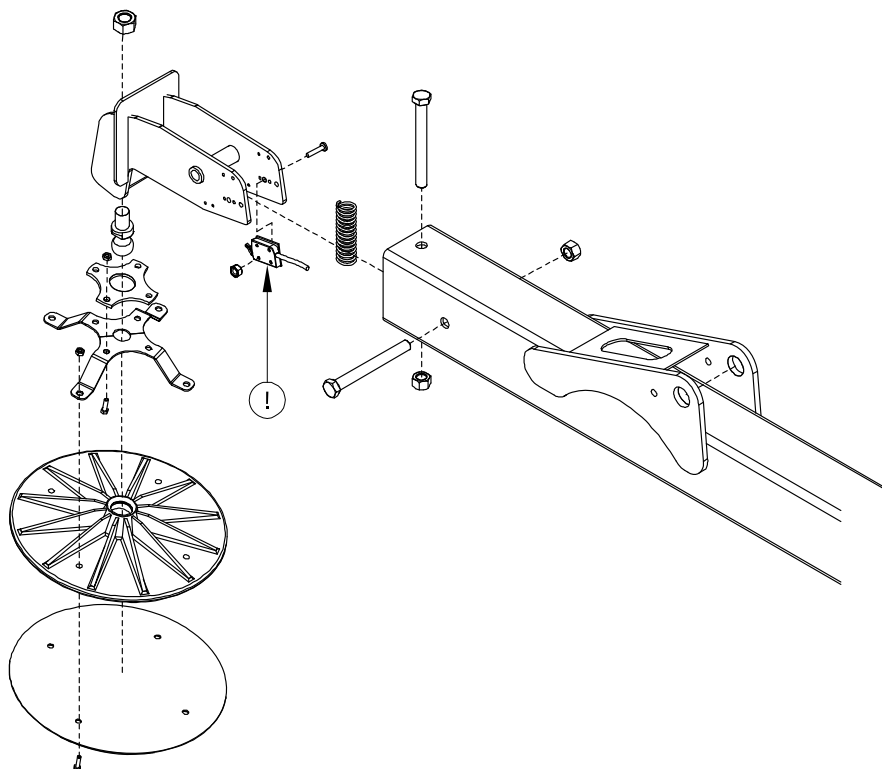

Figure 3-1 Outrigger Position Switches
- Repair or replace as needed. Refer to Figure 3-1.